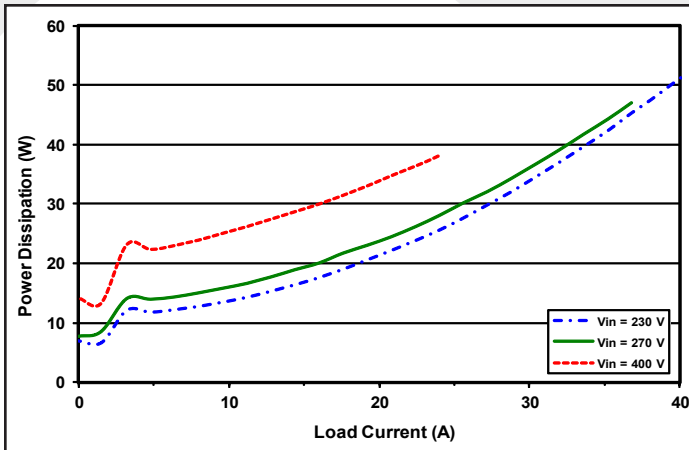
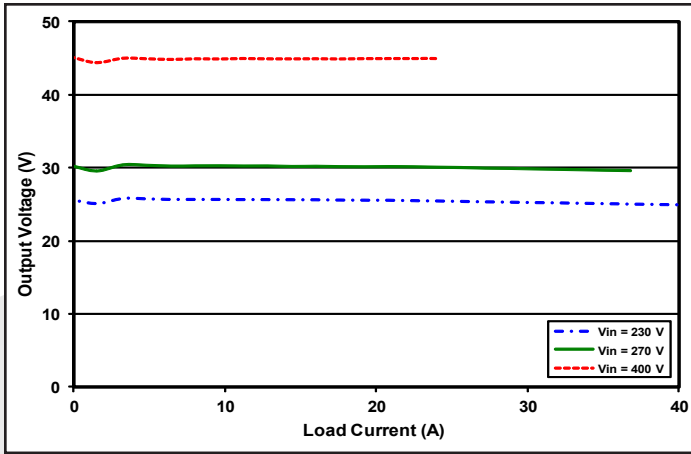

Figure 3: Power dissipation vs. load current for minimum, nominal, and maximum input voltage at  $T_{CASE}=25\text{ }^{\circ}\text{C}$ .
Figure 7: Output voltage vs. load current, regulation curves for minimum, nominal, and maximum input voltage at  $T_{CASE}=25\text{ }^{\circ}\text{C}$ .
**Operation at Light Loads:** The operation of the converter was optimized to reduce power dissipation at light load resulting in a no-monotonic  $V_o$  vs  $I_o$  characteristic load curve (figure 3 and figure 7). This feature affects, in a negative manner, the current share performance (ability) when placing multiple like BusQor's in parallel.